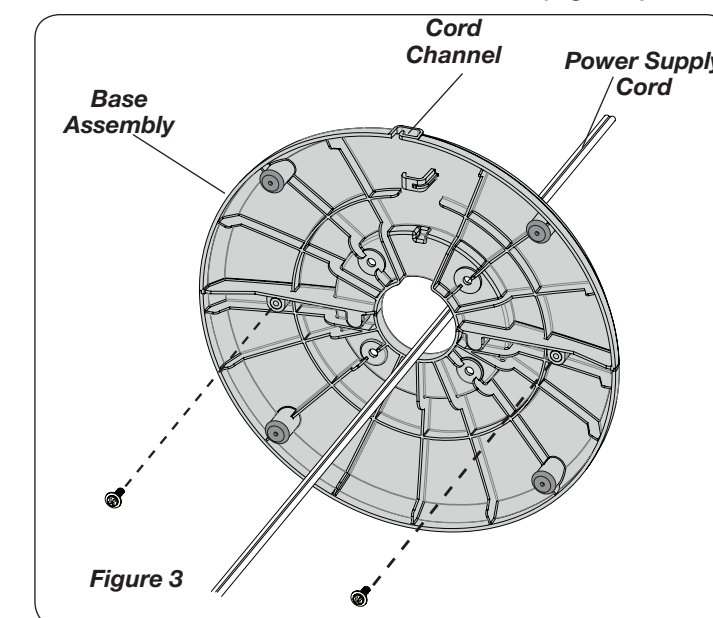

Figure 3
- Secure the Base halves with (2) M4 X 13mm Screws. Thread the **Power Supply Cord** through the large hole in the **Base Assembly**. **NOTE:** The **Cord Channel** on the bottom of the Base should be towards the back of the Heater. (Figure 3)